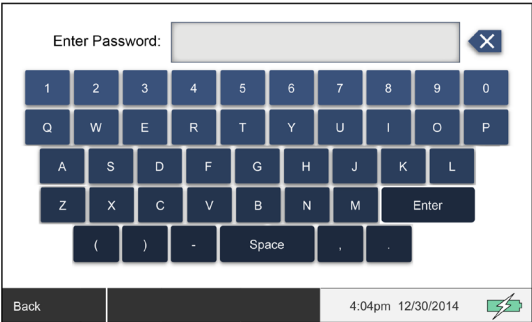

Figure 28 Enter Password
6. Enter new password (see Figure 28)